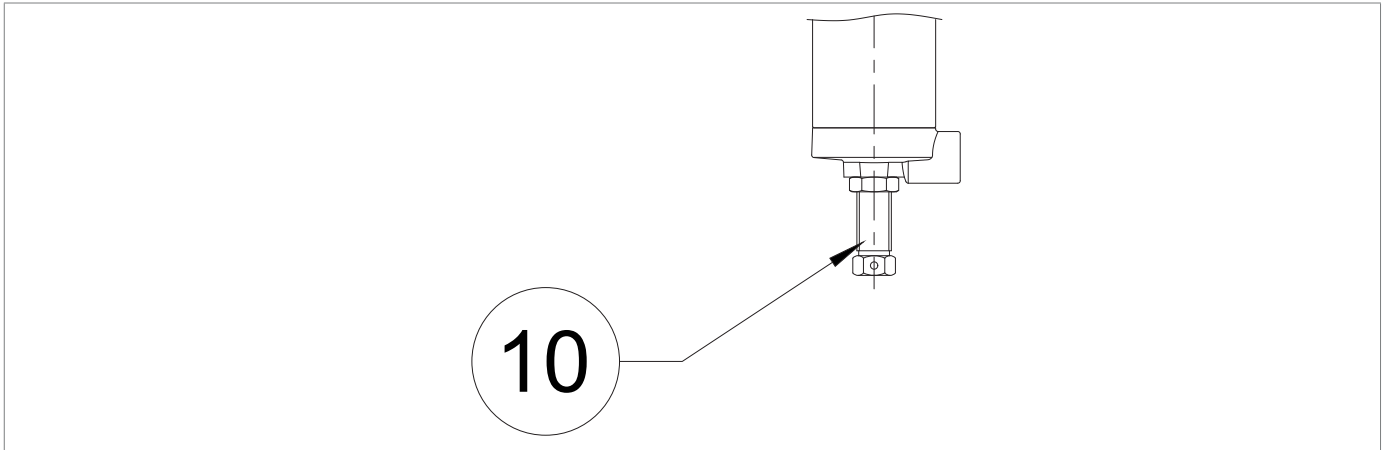

Fig. 8.30. 200/A series pilots
| 13 | Tighten the adjusting screws and fixing nuts (fig. 8.30) on the pilots (3, 11). |
| 5 | Completely compress the pilot spring (3) by turning the adjusting screw (fig. 8.30) clockwise. |
| 7 | Slowly increase the downstream pressure by turning the adjusting screw (fig. 8.30) of the monitor pilot (10) clockwise until the tripping pressure value for the M/A accelerating valve (11) has been reached. NOTICE! Check the pressure referring to the pressure gauge (5) located upstream. |
| 9 | <p>Turn the adjusting screw (fig. 8.30) on the monitor pilot (10) anti-clockwise to decrease the downstream pressure value to the selected monitor operating value.</p> <div style="border: 1px solid black; padding: 5px;"> <p>! NOTICE!</p> <ul style="list-style-type: none"> • Ensuring that the M/A accelerating valve (11) has interrupted the gas discharge; • Check the pressure referring to the pressure gauge (5) located upstream. </div> |
| 10 | <p>Turn the adjusting screw (fig. 8.30) on the pilot (3) anti-clockwise to relieve the calibration spring until the pre-set downstream pressure value has been reached.</p> <div style="border: 1px solid black; padding: 5px;"> <p>! NOTICE!</p> <p>Check the pressure referring to the pressure gauge (5) located upstream.</p> </div> |
| 2 | Completely unscrew the fixing nut (fig. 8.30) of the pilot screw (3). |
| 3 | Completely relieve the pilot spring (3) by turning the adjusting screw (fig. 8.30) anti-clockwise. |